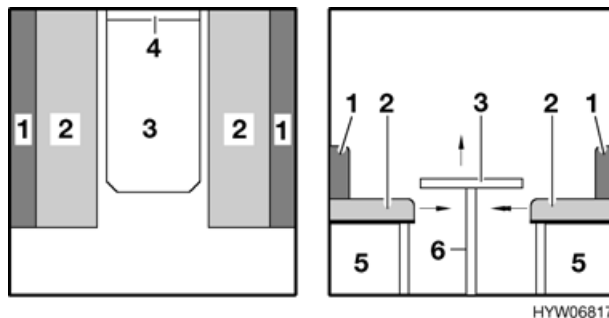

Fig. 46 Prior to conversion
- Slightly lift the front of the table-top (Fig. 46,3).
- Remove table leg (Fig. 46,6).
- Lift the table-top by approx. 45°, remove it out of the mounting rail (Fig. 46,4) and lay it aside. The table is not required for the sleeping conversion.